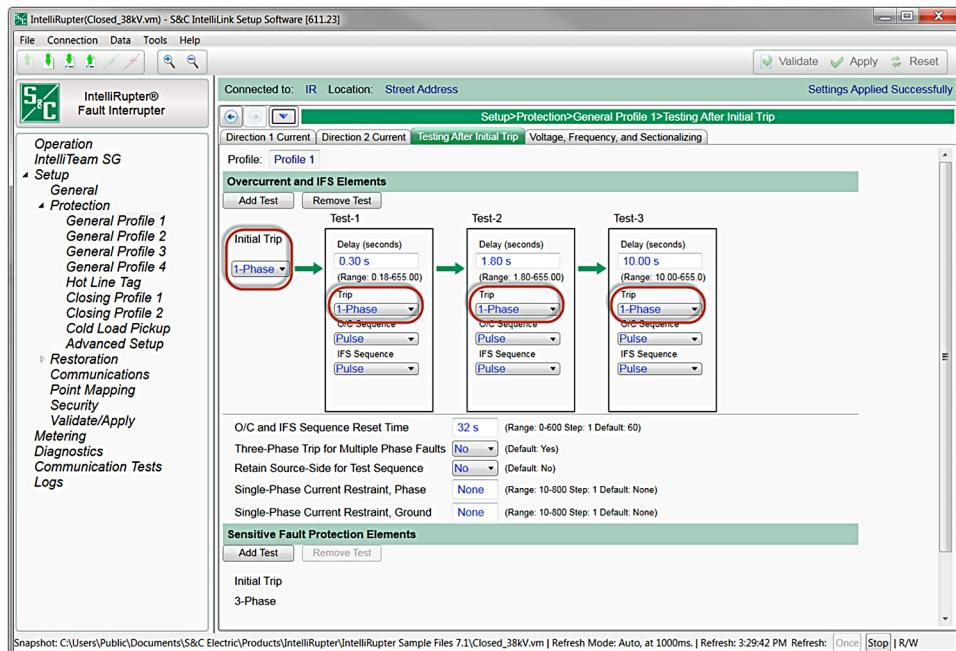

Figure 4. The **Setup>Protection>General Profiles** screen.
- STEP 5.** Open the IntelliLink® Remote Setup Software, connect to each IntelliRupter fault interrupter (one at a time), and verify they are configured for a **Single-Phase Trip and Lockout** operation by going to the *Setup>Protection>General Profiles* screen(s) and reviewing all the profiles that will be activated and used. See Figure 4 on page 3.